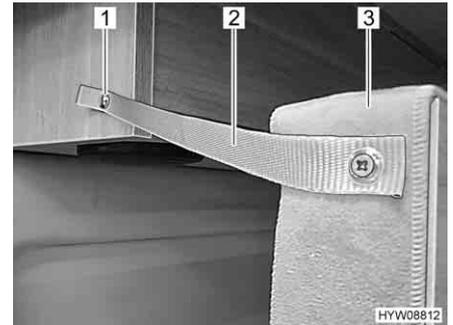

Fig. 30 Securing, back
- Secure the bed (Fig. 30,3) to the roof cabinet with the securing strap (Fig. 30,2) and snap fastener (Fig. 30,1).
- Undo the snap fastener (Fig. 30,1) on the roof cabinet.